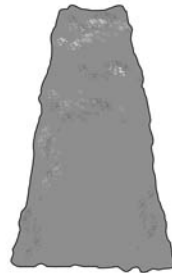

Fig. 15
**NOTE:** When shaping it is advisable to achieve a trapezoidal shape (Fig. 15). This is where the bottom is wider than the top. A trapezoidal cut corresponds to the natural growth of plants and results in optimal hedge growing, as it will expose more light to the lower end of the hedge.